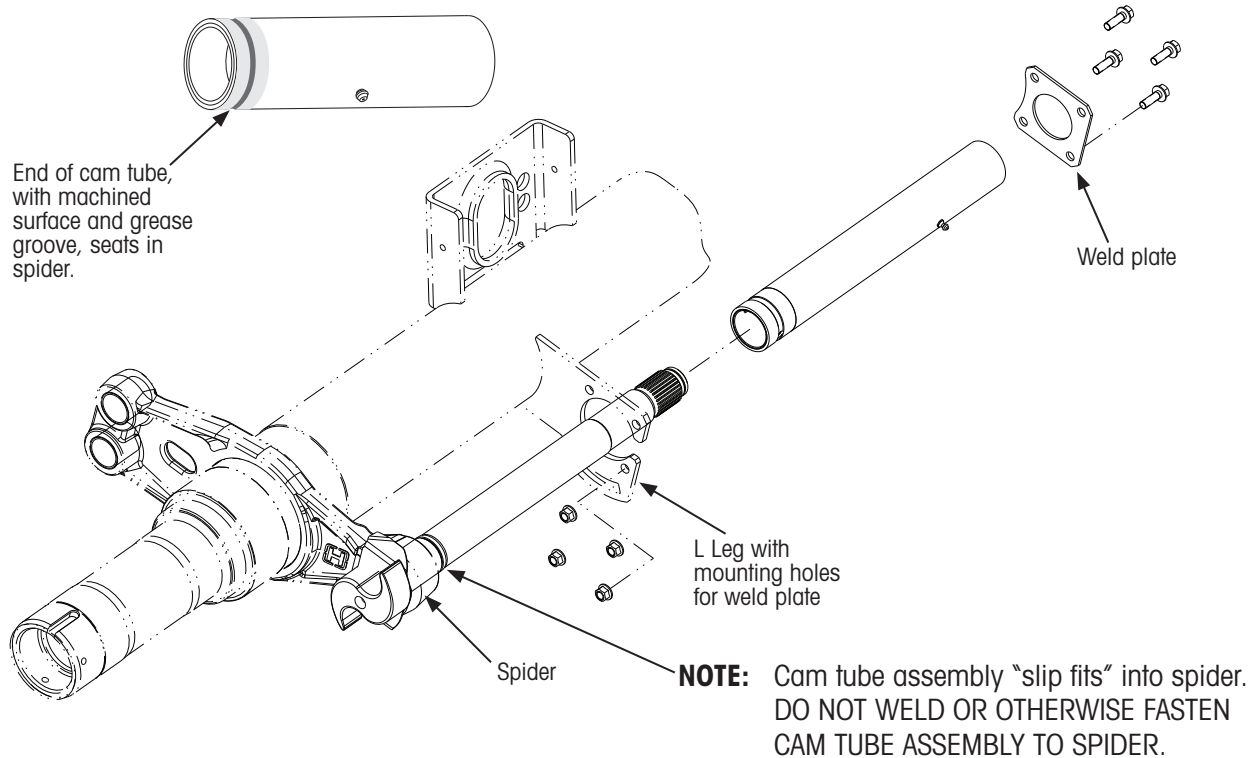
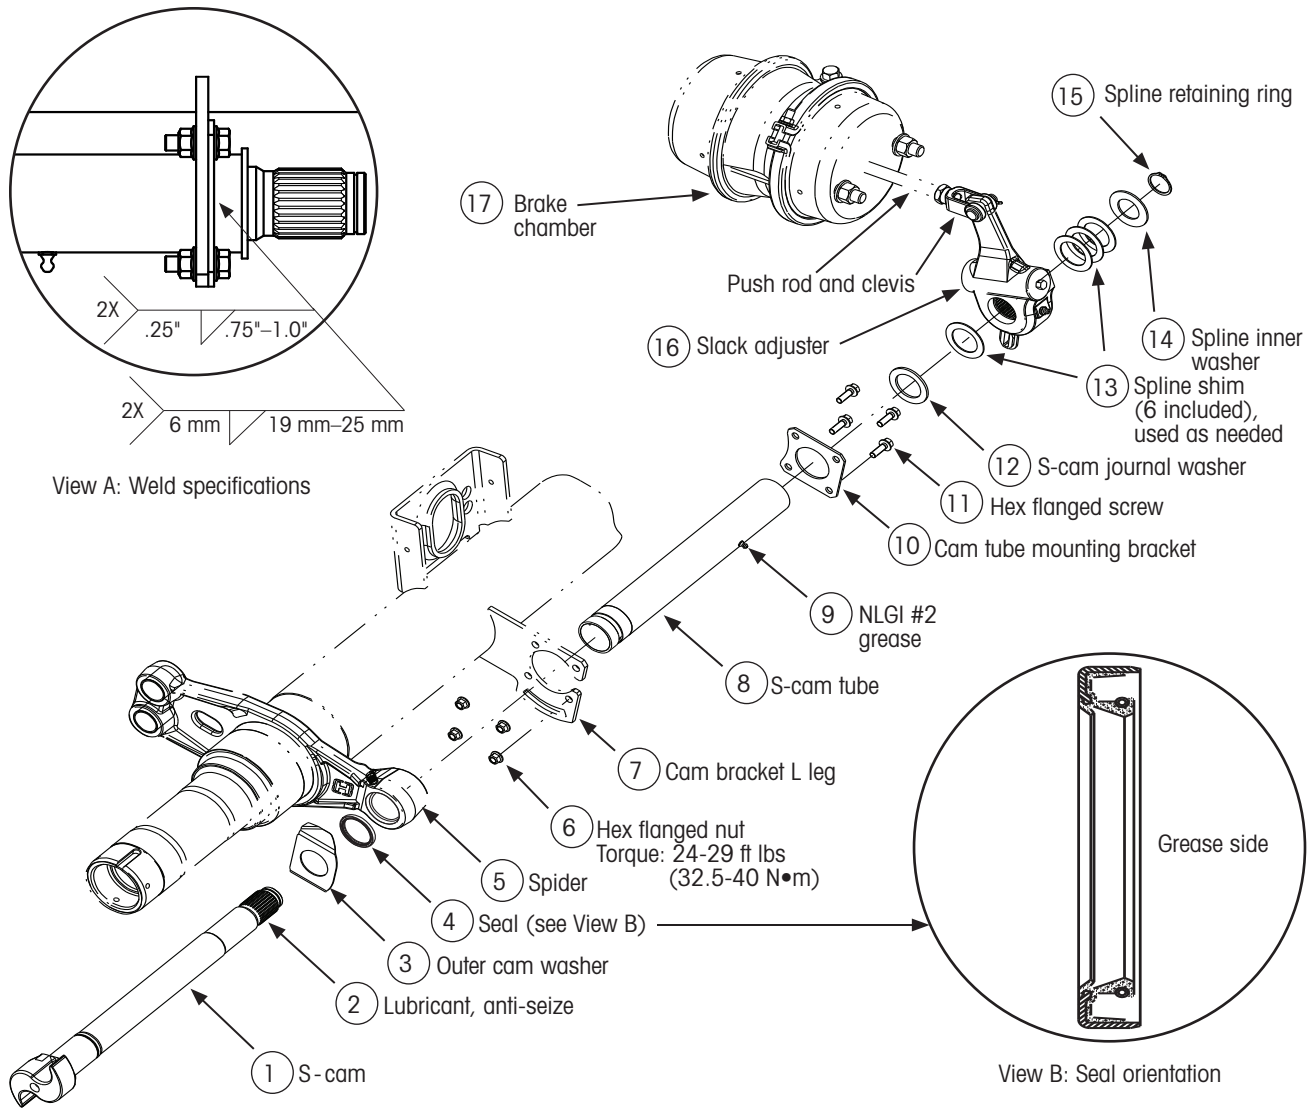

Figure 1: Cam tube assembly installation overview
Figure 3: Cam tube system part identification and weld information
This procedure is for cam tube service kits with a weld mount bracket bolted to the Cam Bracket L Leg on a TRLAXLE™ or HCA™ axle model, as shown in Figure 1 and Figure 3.
- A. To replace outboard seal (item 4 of Figure 3, included in kit), the S-cam will need to be removed.
- A. Orient seal as shown in View B of Figure 3.
2. Referring to Figure 1 on page 1, from the inboard side of the axle, slide the new cam tube assembly (machined end first), through the "Cam bracket L leg" (item 7) and into the spider. The machined end should slip completely into the spider boss, but **not press fit**.
8. Referring to the View A in Figure 3, weld the "Cam tube mounting bracket" to the cam tube by placing two fillet type weld beads at accessible locations around the cam tube.
3. Install "Slack adjuster" (item 16) over the spline gear according to manufacturer's instructions.
4. Install enough "Shims" (item 13) and the "Spline inner washer" (item 14) to leave room for the "Spline retaining ring" (item 15) to fit in the snap-ring groove. Refer to Figure 3.
5. Complete the installation by placing the "Spline retaining ring" (item 15) in the groove at the end of the "S-cam" shaft.
6. Check for end play to be less than 0.06 inch (1.5 mm). Adjust shims (item 13) as needed.
¹ Item refers to numbered items in Figure 3 on page 3.